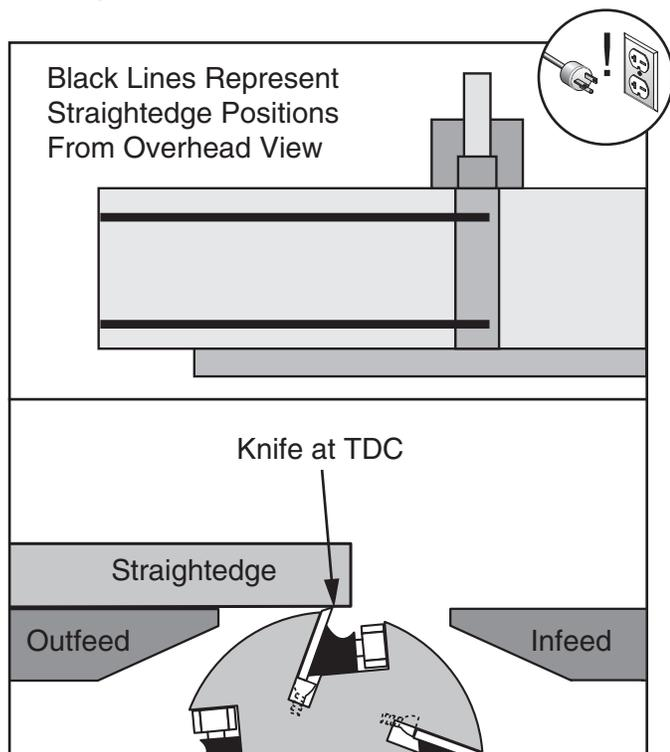

Figure 57. Using a straightedge to inspect knives.
3. Using a straightedge on outfeed table, check height of each knife at positions shown in **Figure 57** below.
Straightedge Method: A high quality straightedge (or Jointer Pal) is held flat against the outfeed table and the knife heights are set to the bottom of the straightedge, as shown in **Figure 57**. Because the knife projection height from the cutterhead is dependent on the outfeed table height, the outfeed table must be set as described in **Setting Outfeed Table Height** on **Page 46** for this method to work correctly.